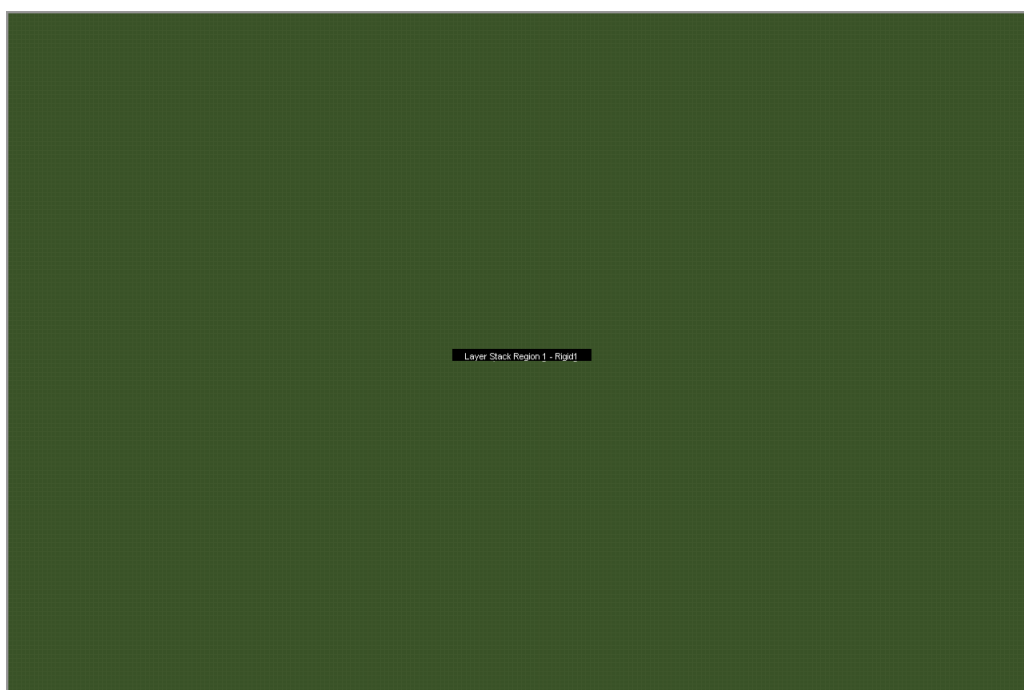

Figure 1. Default Board Planning Mode View
12. Select menu **View » Board Planning Mode** (Key **1**) to begin the process of defining individual board regions. The current Board Region (Board Outline) is highlighted in green as shown in Figure 1 below.